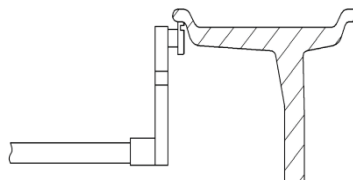

Fig 7-2
7.2.2 Input rim data: Move scale to make handle head touch rim edge inner position as Fig 7-2, get value a, put back scale. Push [a-] or [a+] to input a value